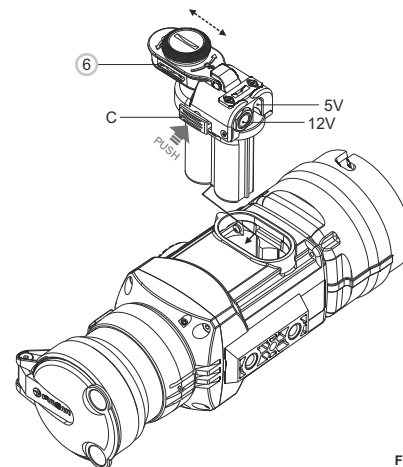

Fig. 3
- Install the external power adapter into the monocular's battery compartment (see Fig. 3). Make sure that the adapter's latches (C) have snapped on both sides.
- Secure the cover (6) on the adapter (see Fig. 3).
- Power the unit on with a short press of the “ON/OFF” (9) button.